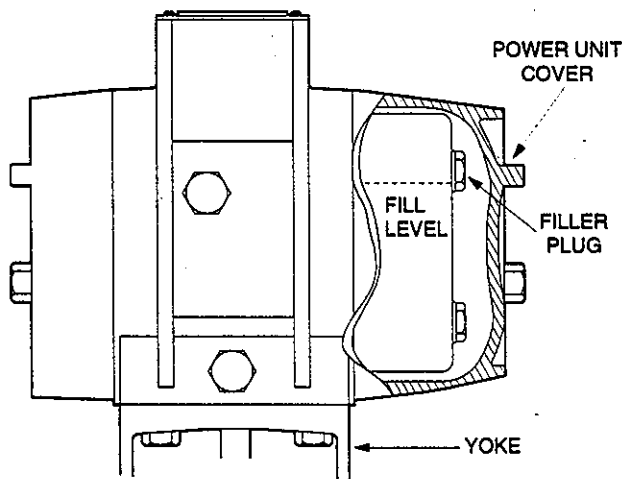

Figure 7. H30 Actuator
- Unscrew filler plug near top of mounted unit (Figure 7).